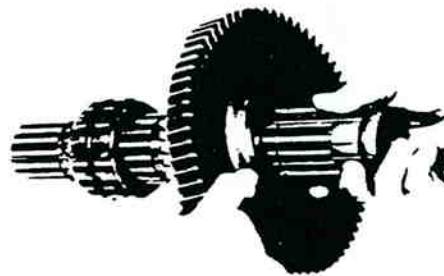

Figure 13-62. Removing 2nd Speed Gear and Spacer.
16. Remove 2nd speed gear and spacer from mainshaft (figure 13-62).